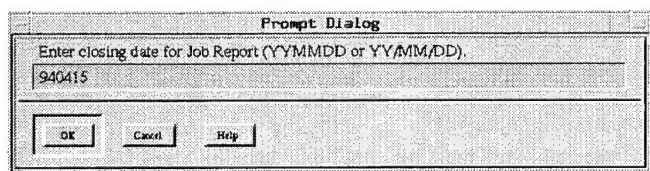

Figure 48. Prompt dialog screen showing correct format for entering the closing date on the **Job Report Panel** screen
- Click on the **Closing Date** box and the **Prompt Dialog** panel (Figure 48) will be displayed.